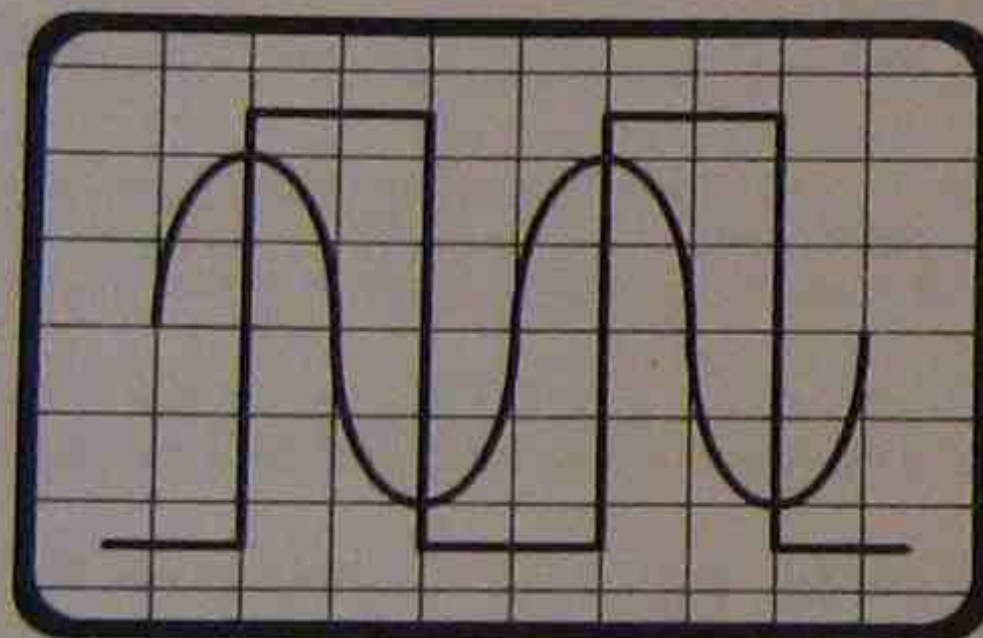

Fig.1
- Determine the following from the display shown in Fig.1: